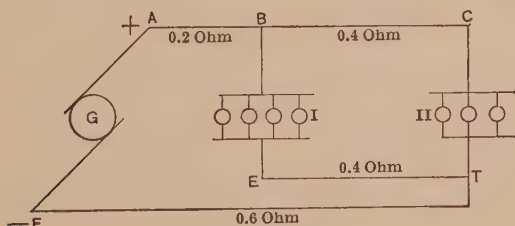

FIG. 71.
**Prob. 19.** In Fig. 71, each lamp takes 1.2 amp.
**Prob. 20.** Find the voltage across each lamp of Fig. 71, if the generator voltage is 125 volts, and each lamp takes 1.2 amp.
**Prob. 21.** Find the voltage across the generator and Group I in Fig. 71 if the voltage across Group II is 112 volts and each lamp takes 1.2 amp.